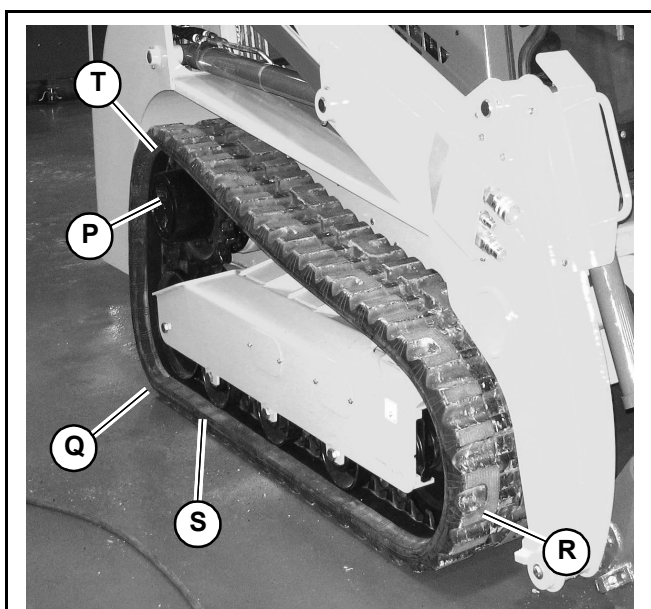

Fig. 105 – Track Removal/Installation
5. Use a pry bar to pry/guide the old track at (R, Fig. 105) off the front idler wheel.
6. Using a hoist with a hook installed and a pry bar, lift/guide the old track at (T, Fig. 105) off the drive sprocket. Remove the old track.
7. Using a hoist with a hook, lift the new track at (T), and manoeuver the track under the rear idler wheel at (Q) using a pry bar and your foot.
12. Remove any wedging blocks (U) that were used to guide the track.
13. Remove the block placed under the track at (S, Fig. 105).